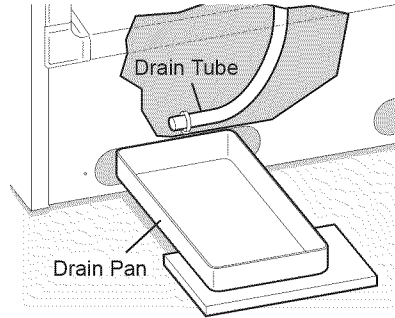
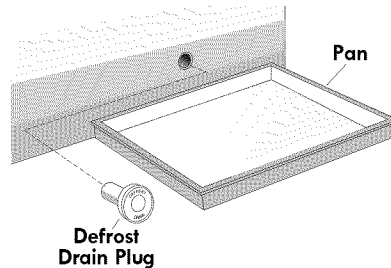
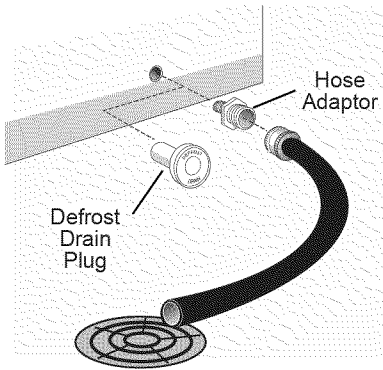

Figure 1
Figure 2
Figure 3
- Place a shallow pan under the drain tube. Defrost water will drain out. Check the pan occasionally so water does not overflow (see figure 1).
- Place a shallow pan beneath the drain outlet. Pull out the outside drain plug (see figure 2). A $\frac{1}{2}$ inch garden hose adapter can be used to drain the freezer directly into a floor drain (see figure 3). If your model is not equipped with an adapter, one can be purchased at most hardware stores.
- Place a shallow pan or the Divider/ Drain Pan (if equipped) beneath the drain outlet. Pull out the outside drain plug (see figure 1). A ½ inch garden hose adaptor can be used to drain the freezer directly into a floor drain (see figure 2). If your model is not equipped with an adaptor, one can be purchased at most hardware stores.
- Remove the drain plug inside the freezer by turning counterclockwise (see figure 3). Defrost water will drain out. Check pan occasionally so water does not overflow.